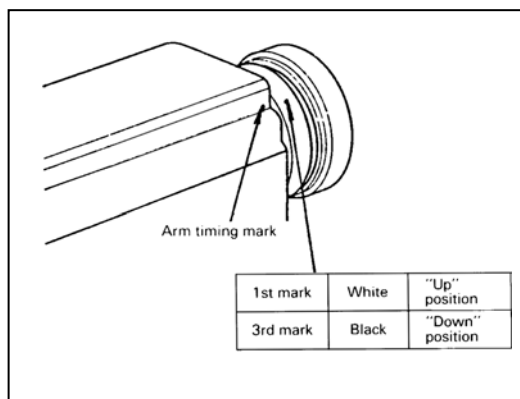
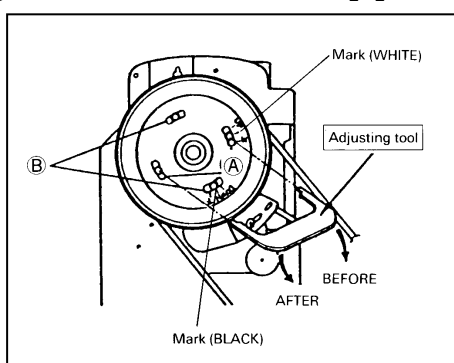
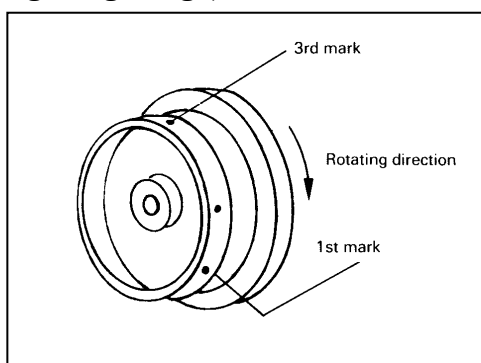

Fig.2
Fig.3
Fig.4
7、Adjustment of needle bar stop position(Fig2, Fig3, Fig4):